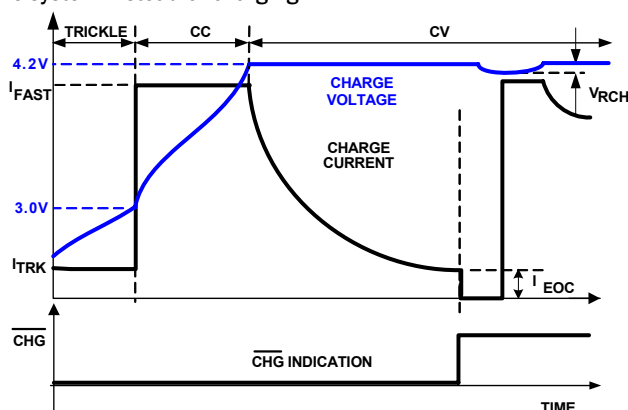

FIGURE 29. TYPICAL CHARGING CYCLE FOR CONT = L
The charger function is similar to other Li-ion battery chargers, i.e., it charges the battery at a constant current (CC) or a constant voltage (CV) depending on the battery terminal voltage. The constant current I_{FAST} is set by the external resistor R_{IREF} . Depending on the combination of the AC/USB and the MODE pin status, the actual charge current may be reduced by the input current limit. When the battery voltage reaches the final voltage of 4.2V, the charger enters the CV mode and regulates the battery voltage at 4.2V to fully charge the battery without the risk of overcharging. Upon reaching an end-of-charge (EOC) current, the \overline{CHG} will turn to high impedance to indicate a charge complete state and if CONT is low, Q2 will be turned off to terminate charging. Figure 29 shows the typical charge profile with the EOC recharge events when CONT is low.